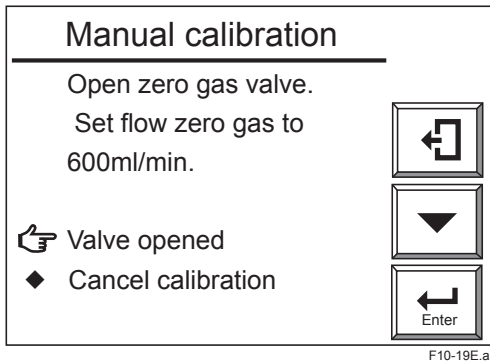

Figure 10.19 Manual Calibration Display
- (1) When the display shown in Figure 10.19 appears during calibration, open the zero gas flow setting valve of the flow setting unit and adjust the flow rate to 600 ± 60 ml/ min. To rotate the valve shaft, if the valve has a lock nut loosen the lock nut and slowly turn it counterclockwise. To check the flow rate, monitor the calibration gas flowmeter. If the sample gas pressure is extremely high, adjust the sample gas pressure to obtain pressures (listed in Table 10.6) ±10%.